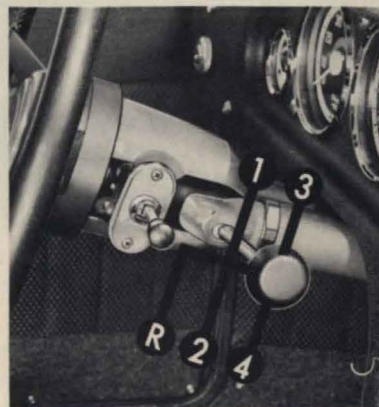

Figure 12. Gear positions
15. Gear lever. For position, see Figure 12. When engaging the reverse gear, the back-up lights are automatically lighted.
In the gear box all forward gears have synchromesh. To engage the reverse gear, pull the lever out from the steering column and then lift it towards the steering wheel pulling backward and downwards. The positions of the different gears are shown in Figure 12.